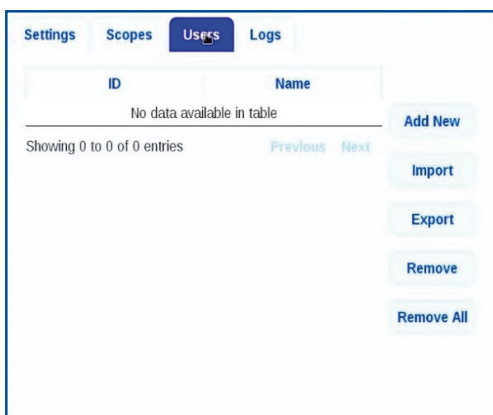

Fig. 50
2. Go to the **Users Tab** and press the Export button to export the Users List (Fig. 50).